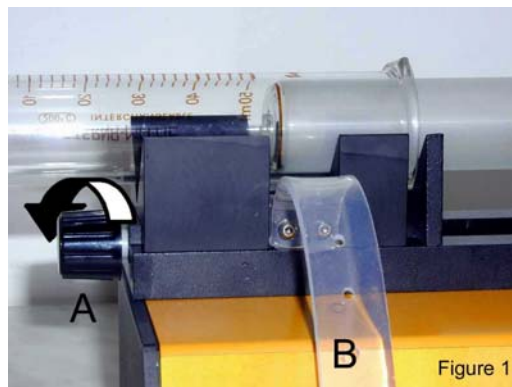

Figure 1
- Place the syringe into the bed (figure 1).